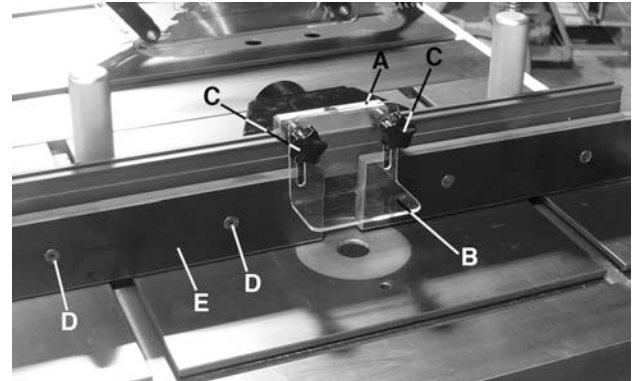

FIGURE 9
- 1) Lightly loosen the left side outfeed board mounting screws (D) Fig.9. Slide the left side outfeed board (E) towards the left to remove it from fence.